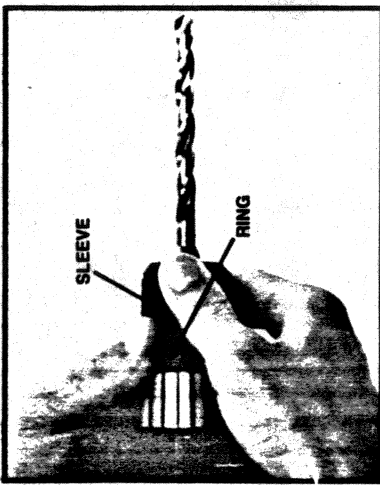

Fig. 4
5. Tighten chuck by holding chuck ring. See Fig. 4 with one hand while turning outer sleeve clockwise with other hand. Tighten securely.